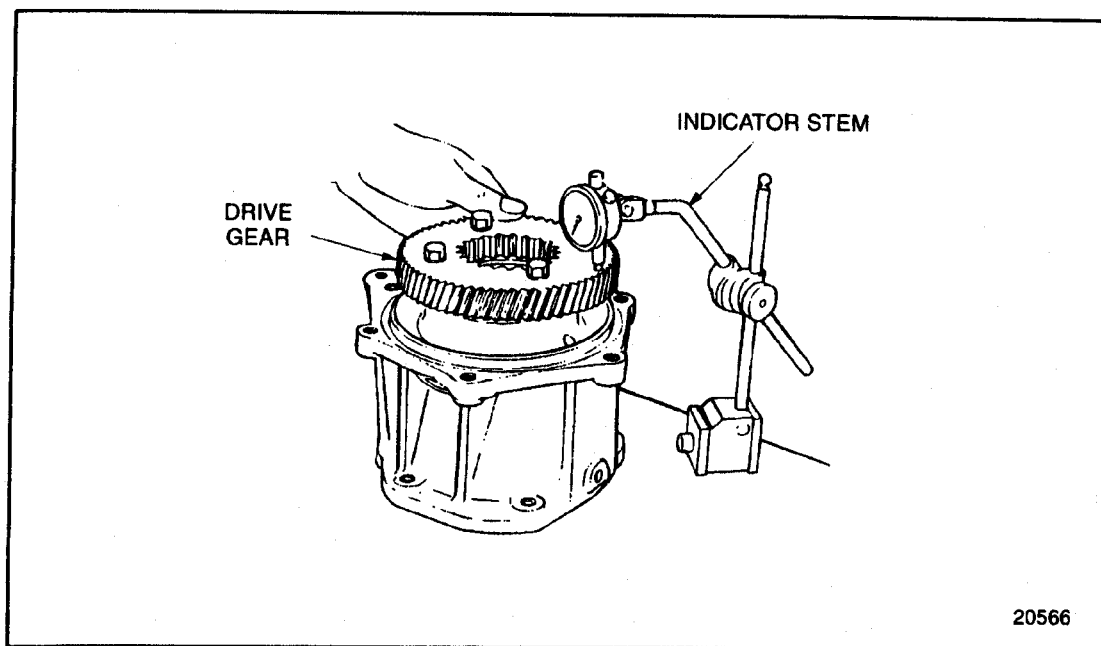

Figure 10-36 Air Compressor Drive Shaft Installation (Former Design)
27. Assemble a dial indicator and magnetic base so that the indicator stem rests on the face of the drive gear just inboard of the drive gear teeth. See Figure 10-36.